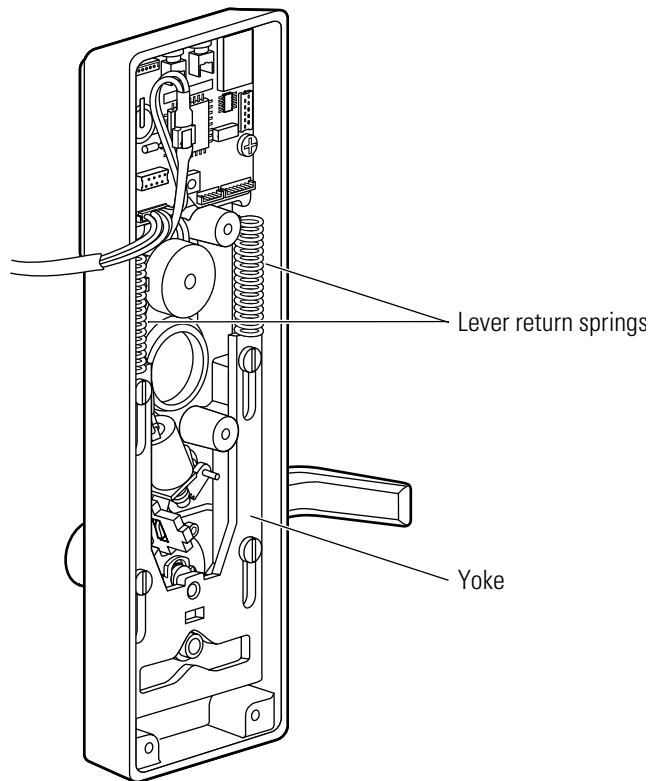

Figure 10.5 Removing and reinstalling the lever return springs
1. With the posts on the mounting plate inserted in the lever return springs, slide the mounting plate into the escutcheon. See Figure 10.5.
2. Remove the lever return springs from the yoke. See Figure 10.5.
1. Install the lever return springs onto the yoke posts. See Figure 10.5.